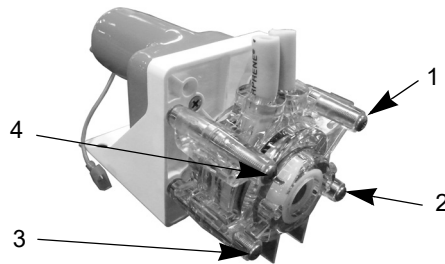

Figure 23. Pump Body Screws
- Loosen and remove the four screws from the pump body (See Figure 23).
- While holding the pump halves together with your hand, reinsert the four thumb screws (See Figure 23) and tighten using a criss-cross pattern as shown. The thumb screws should be tightened about 1/4 turn beyond snug.